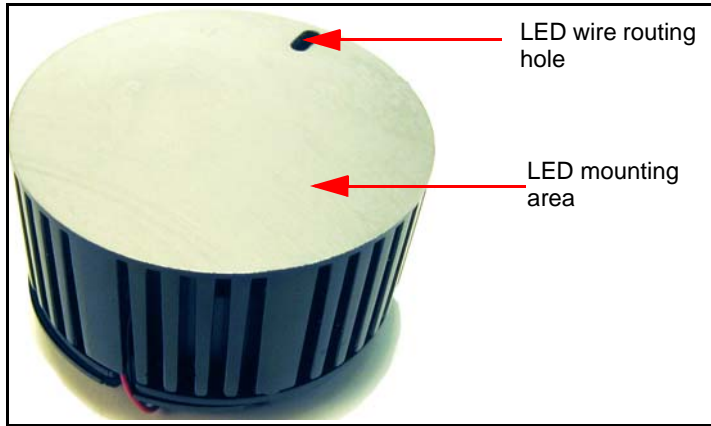

Figure 6: Heat Sink Face
- Feed the LED power wires through the hole in the heat sink face (see Figure 6) and through the passage to the exit notch in the cooler cover. They exit on the opposite side from the SynJet wiring. LED power wire routing is shown in Figure 7 and in Figure 8.
Figure 6 shows the center of the heat sink face used to attach the LED. Figure 8 shows the LED power wire routing from the face of the heat sink to the external LED power source.